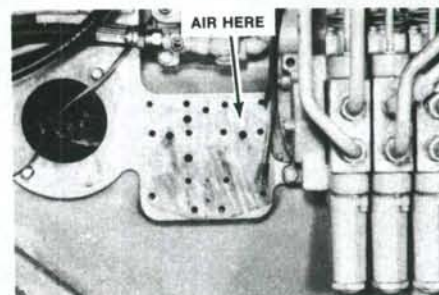
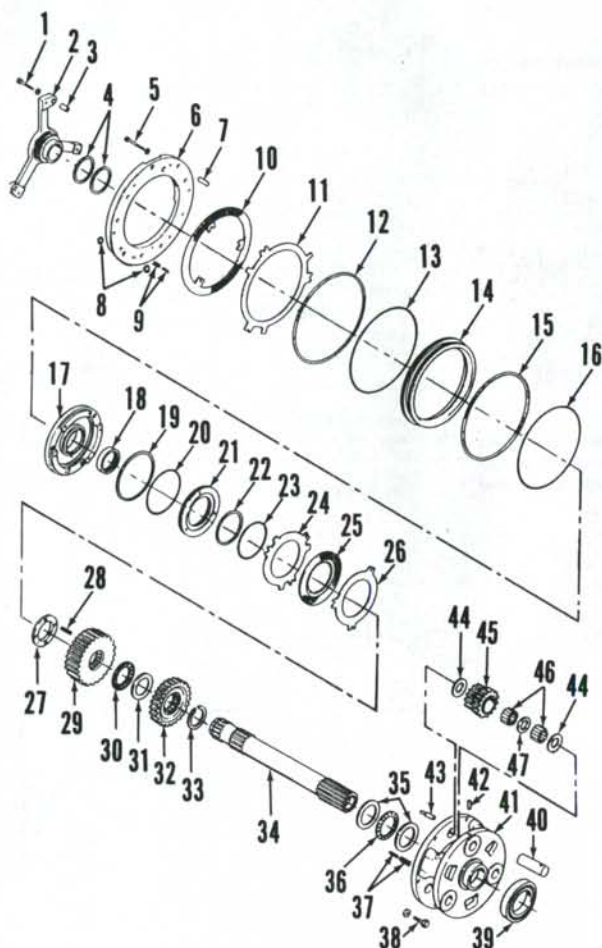

Fig. 170—Apply air pressure to hole indicated to remove C-6 piston.
Fig. 169—Exploded view of the High/Low power shift unit used on Models 2394 and 2594 equipped with six-speed power shift.
152. R&R AND OVERHAUL. To remove the C-5 and C-6 clutches and planetary assembly, split tractor between torque tube and transmission as outlined in paragraph 142. Unbolt and remove step assembly from cab. Disconnect wires from C-5 and C-6 solenoids and pressure switches. Disconnect hydraulic tubes from hydraulic pump and C-5/C-6 control valve body. Unbolt and remove the C-5/C-6 control valve and the hydraulic pump. Withdraw the hydraulic pump drive shaft. Remove two bolts (5—Fig. 169) and install two 3/8 inch guide studs. Remove remaining bolts and slide oil distribution hub assembly (1 through 9) from torque tube. Remove C-6 friction disc (10) and steel plate (11). Apply air pressure to hole in side of torque tube (Fig. 170) and remove C-6 piston (14—Fig. 169) with seals and "O" rings (12, 13, 15 and 16). Using screwdrivers or small bars, move planetary carrier assembly rearward, then remove assembly from torque tube. Remove cap screws (38) and remove C-5 clutch (17 through 26) and return springs (37). Remove spring plate (27), springs (28) and sun gear (29). Remove